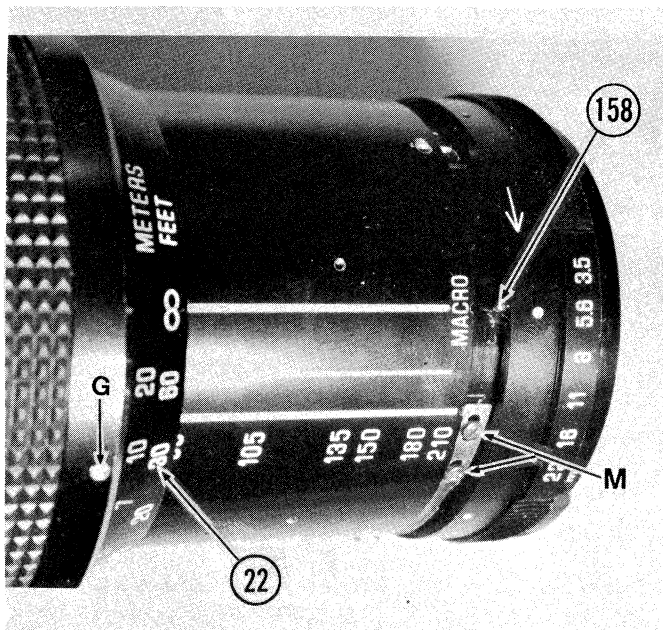

Fig. 5
- 1.2.5 Apply a spot of grease to Detent Ball (158) and place it in hole shown in Fig. 5.